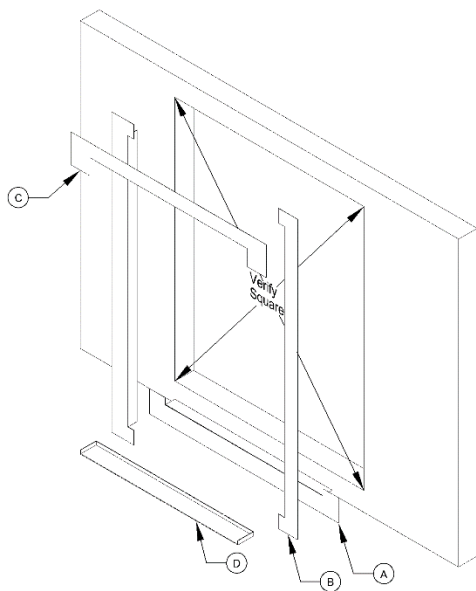

Figure 2a
5. Prepare rough opening by checking diagonal dimension of opening to verify square and apply water resistant barrier as shown in figure 2a. Use steps A through C for applying water resistance barrier. Use step D for installation of sill pan.